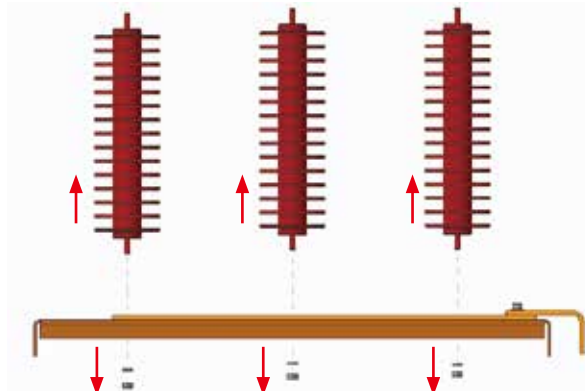

Figure 7.11: Remove the fixed bolts and arrestors
- Remove the fixed bolts of the mounting bracket of the arrester (See figure 7.11)
- Remove the three arresters from the bracket (See figure 7.11)